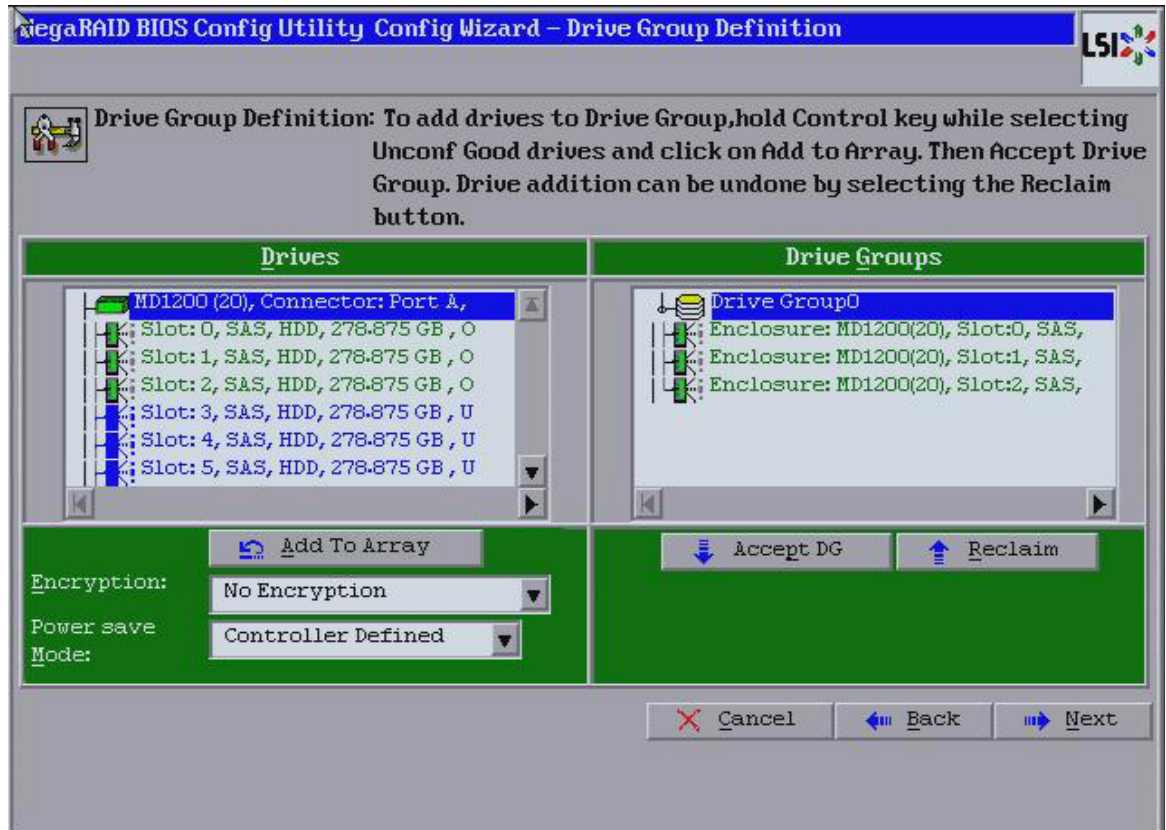

Figure 32: Drive Group Definition Dialog
2. Click **Add To Array** to move the drives to a proposed drive group configuration in the **Drive Groups** panel on the right, as shown in Figure 32.